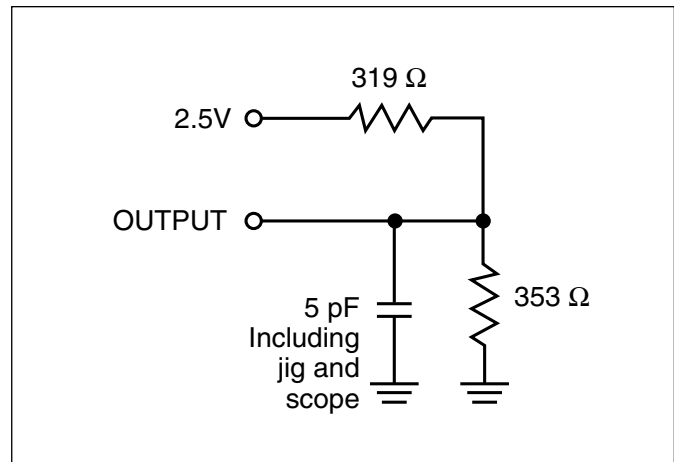

Figure 1b.
2. Tested with the load in Figure 1b. Transition is measured ±500 mV from steady-state voltage. Not 100% tested.
2. Tested with the load in Figure 1b. Transition is measured  $\pm 500$  mV from steady-state voltage. Not 100% tested.